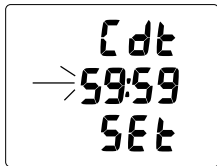

Fig. 99 - SET FREE CDT
**SET FREE CDT** (Surface only), information includes (Fig. 99) -